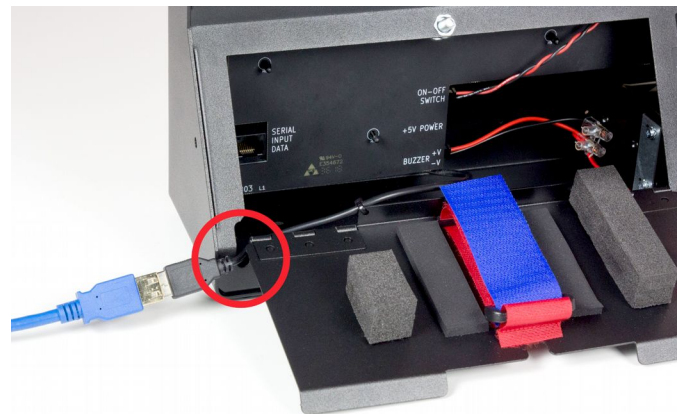

Fig. 2.1: Connecting the cable for external powering.
- Route the cable through the slot to the side of the panel before closing the panel (Fig. 2.1).